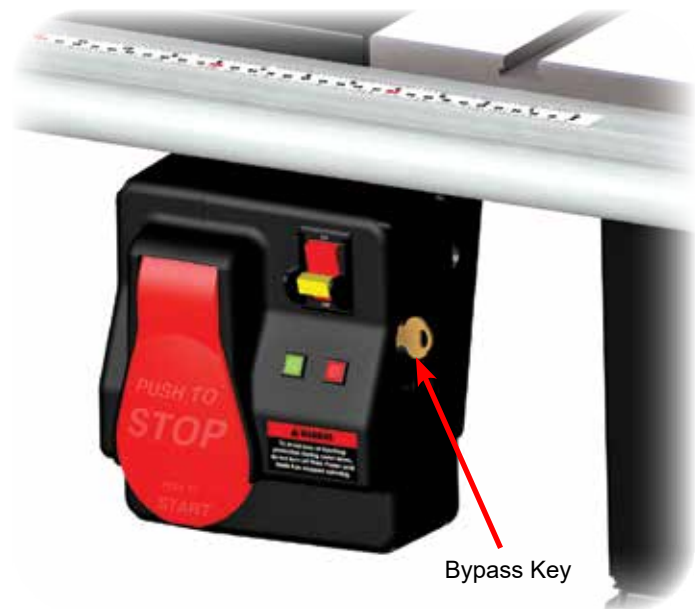

Fig. 70
- Turn the Bypass Key clockwise and hold it for at least 1 second (see Fig. 70). The green LED will begin blinking slowly and the red LED will flash once to let you know when the 1 second has elapsed.